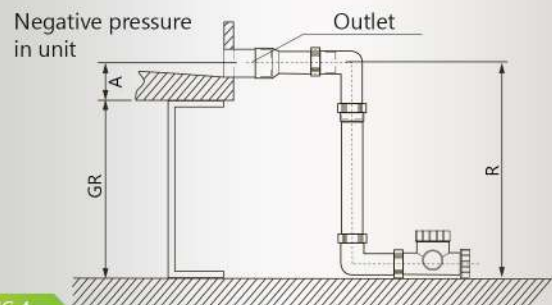

FIG 4
5. The distance between the middle of the intake of the siphon and the floor must be  $\geq R$  (min. 140 mm) (Fig. 4).
6. The intake to the siphon is carried out at one of the two threaded connections (1½") of the non-return valve (9). The unused threaded connection must be closed using the rubber disk (10) and end cap (11).
7. The siphon is connected to the drainage nozzle using the provided connection piece (2) and one of the two rubber sleeves (1a or 1b). Condensate outlets of 40 mm diameter are directly connected to the crimp screwing of elbow (5).
8. The second immersion pipe (6) can be used to provide an extension of the outlet. To be ordered separately, if required.
10. The siphon can be drained via the end cap (11), if required.